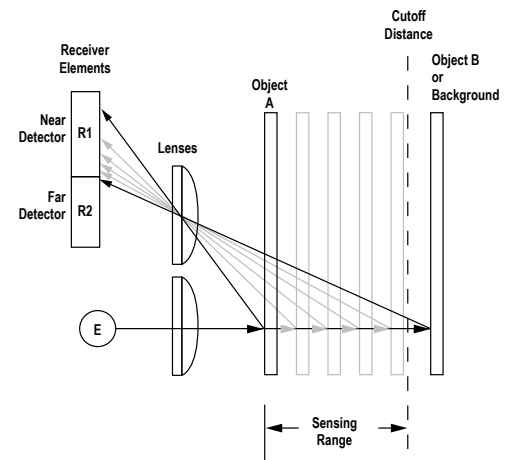

Figure 2. Adjustable field sensing concept
The sensor compares the reflections of its emitted light beam (E) from an object back to the sensor's two differently-aimed detectors R1 and R2 (see Figure 2. Adjustable field sensing concept on page 2). If the near detector (R1) light signal is stronger than the far detector (R2) light signal (see object A, closer than the cutoff distance), the sensor responds to the object. If the far detector (R2) light signal is stronger than the near detector (R1) light signal (see object B, object beyond the cutoff distance), the sensor ignores the object.